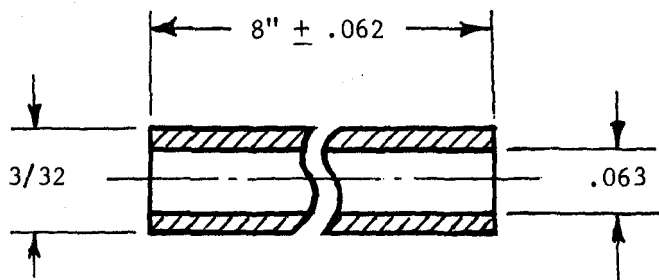

Figure 2-8. Fabrication Instructions for Evacuation Tube.
g. *Evacuation Tube.* Replace tube if corroded, distorted, or damaged. Manufacture tube from copper tube (item 8, table 1-4) in accordance with figure 2-8.